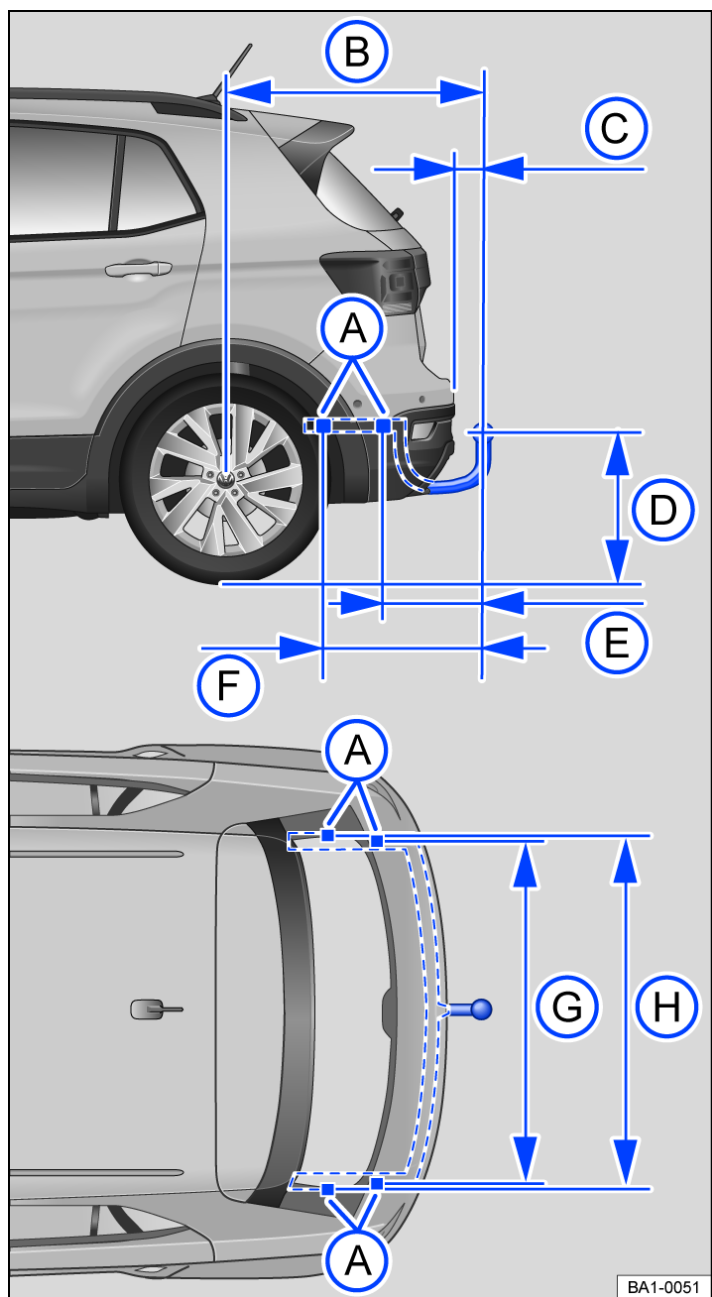

Fig. 1 Dimensions and mounting points for retrofitting a towing bracket.
The dimensions must be observed in all cases when retrofitting a towing bracket → Fig. 1. Always observe the minimum distance given from the middle of the ball coupling (D) to the surface of the road. This also applies when the vehicle is fully laden, including maximum drawbar load.
- (A) Mounting points
- (B) 798 mm
- (C) At least 75 mm
- (D) 350 – 420 mm
- (E) 333 mm